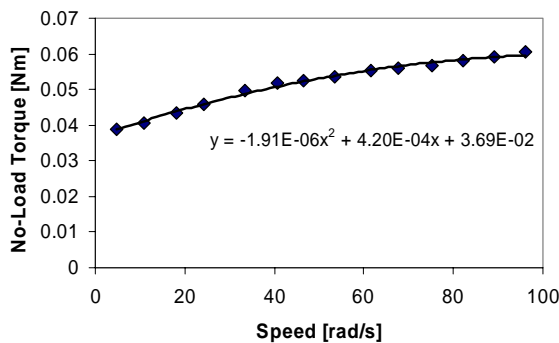

Fig. 5. No-load test : measured loss torque versus speed data points and the polynomial curve fit.
During the no-load test, the output torque is zero and hence the input current should ideally be zero. In practice there are iron losses in the magnetic circuit and mechanical losses such as bearing friction and rotor windage (air turbulence). These no-load losses can be modelled as a mechanical loss torque. The no-load loss torque is a function of speed and can be easily determined from knowledge of the back-emf constant and the input current during the no-load test using (1) as shown in Fig. 5. It is often convenient to curve fit the results with a polynomial to allow the use of the no-load torque loss in the performance calculations. When using Excel for this curve fitting it is important to ensure that the equation for the curve has a sufficient number of significant figures for each co-efficient.